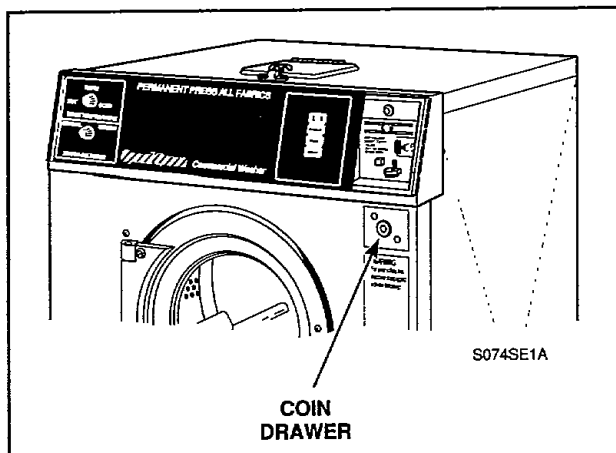

Figure 15
- e. Unlock and remove coin drawer, *Figure 15*.
- h. **METERED MODELS** — Unlock and remove coin drawer, *Figure 15*.
h. **METERED MODELS** — Unlock and remove coin drawer, *Figure 15*.